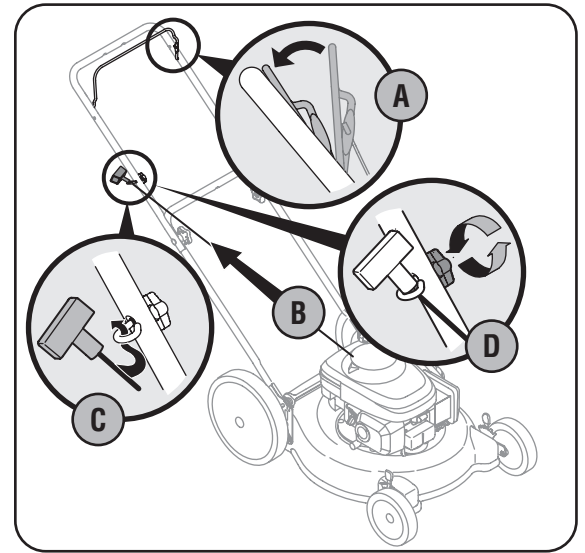

Figure 4
4. Rope guide Setup as follows, see Figure 4: